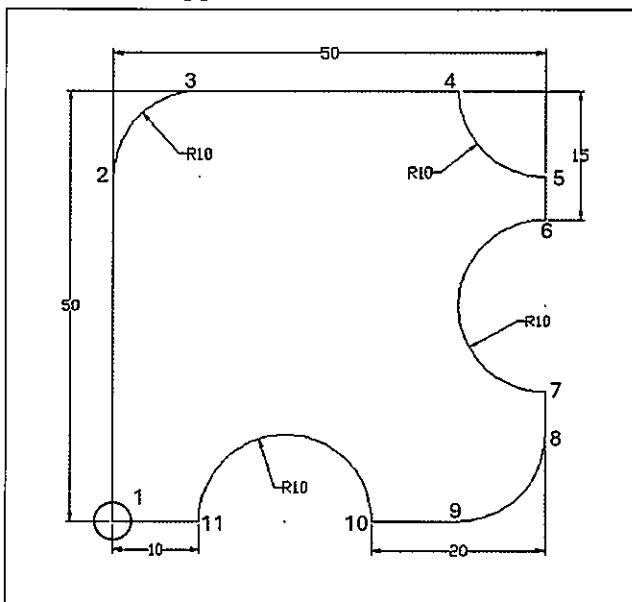

Figure 3c / Rajah 3c
- CLO2 (c) Based on the diagram in **Figure 3c**, construct the G-code program in **Table 3c** below using the absolute coordinate system.